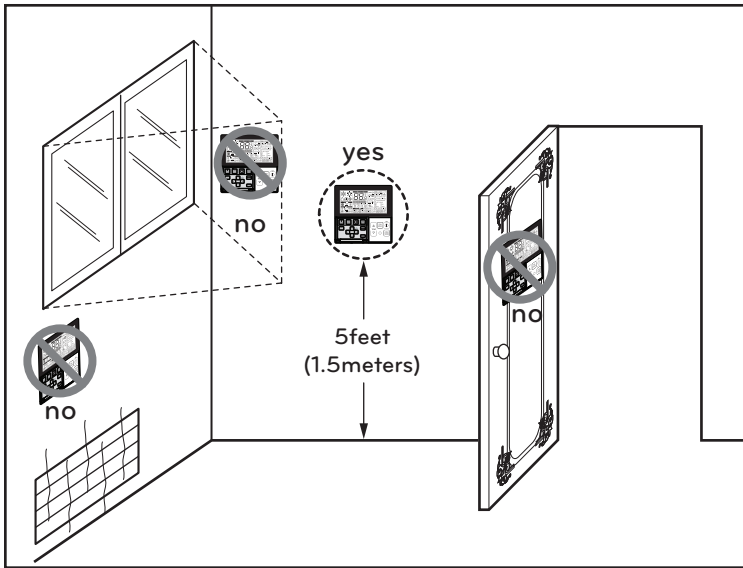

Fig.1 Typical locations for remote controller
- This remote controller is equipped with a seven segment LED display. For proper display of the remote controller LED's, the remote controller should be installed properly as shown in Fig.1. (The standard height is 1.2~1.5 m from floor level.)